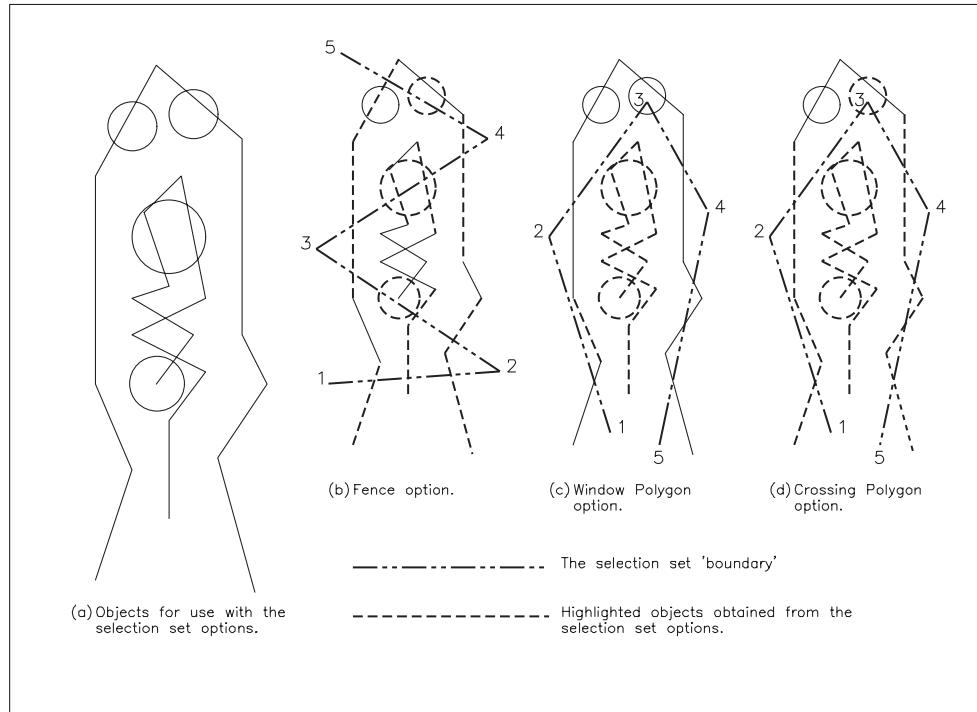

Figure 3.6 Investigating the fence, window polygon and crossing polygon selection set options.
- 2 Refer to Figure 3.6(a) and draw some new lines and circles – the actual layout is not important, but try and draw some objects ‘inside’ others.
- 3 Refer to Figure 3.6(b), select the ERASE icon from the Modify toolbar and:
- 6 Menu bar with **Modify-Erase** and referring to Figure 3.6(c):
c) pick points in order as Figure 3.6(d) then right-click and pick Enter from shortcut menu